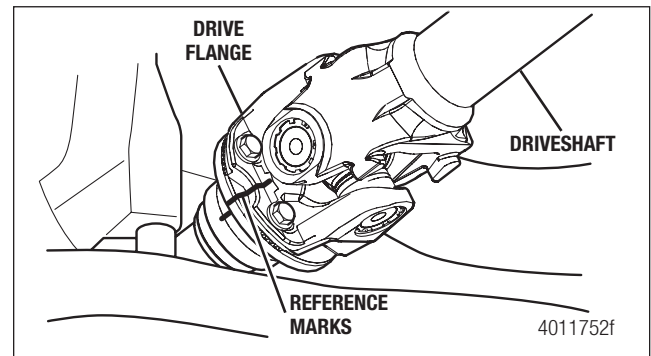

Figure 5.65
2. Apply reference marks at the flange connections on both ends. These marks will be used to reinstall the driveline with the same phasing at reassembly. Figure 5.65.